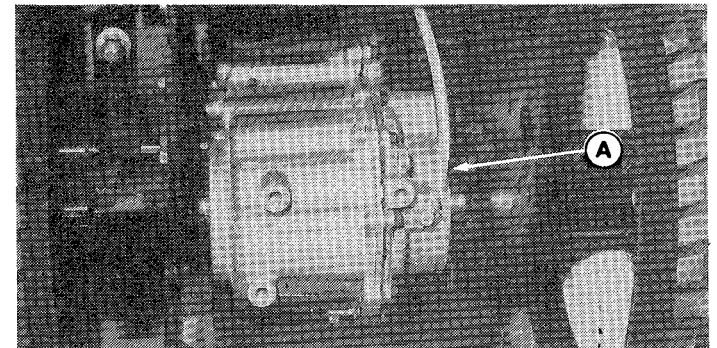
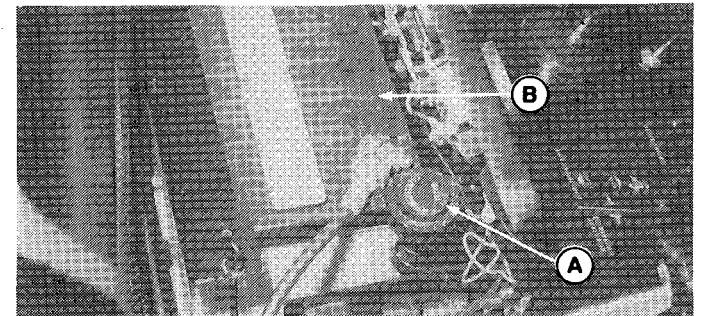

Figure 4. Transmission Fluid Check
Figure 5. Transmission Fill Tube
Check with engine off. Fluid should be visible in tube (A, figure 4) at rear of tractor. Fluid should not extend more than one inch above fitting. To add fluid (Type F Transmission Fluid), raise hood and add at fill tube (A, figure 5).
1. The battery and cables (figure 5) can be cleaned with baking soda and water. Clean the terminals and clamps with a wire brush. Coat the clamps with petroleum jelly to inhibit corrosion.